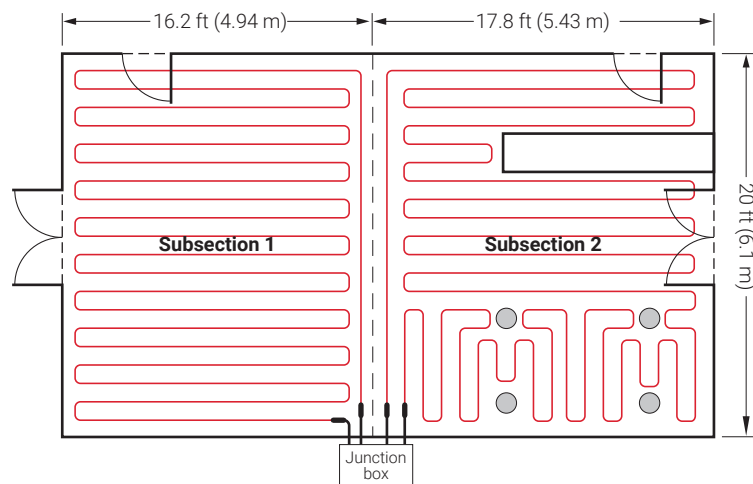

Fig. 17 Typical heating cable layout for comfort floor heating
- Divide large floor areas into equal subsection areas, if possible (Fig. 17).
Note: In Fig. 17, the subsections are equal heated areas.
Subsection area	647 ft ² / 2 = 324 ft ² (see Fig. 17) 60.4 m ² / 2 = 30.2 m ²